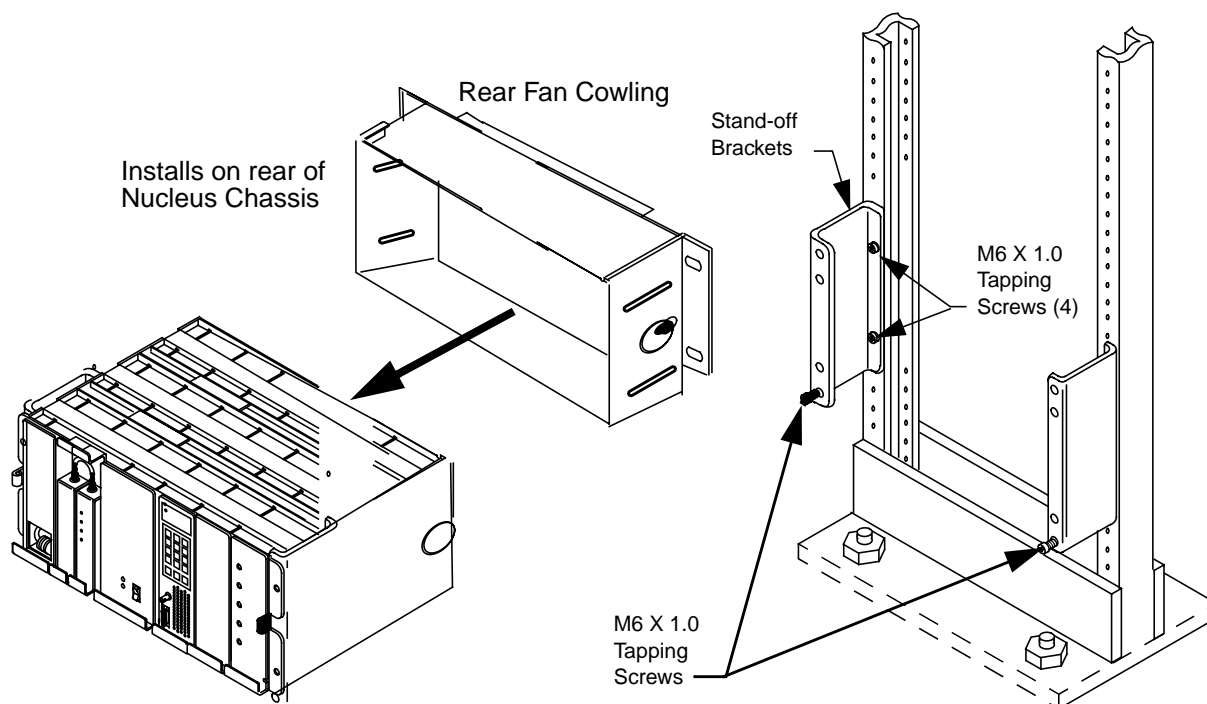

Figure 4-5: Attaching Screws to the Brackets
- c. Install the brackets on the rails using four M6x1.0 tapping screws (see Figure 4-5).
- d. Insert an M6x1.0 tapping screw (supplied) into each front rail at the lower of the two holes for each stand-off bracket (see Figure 4-5). The screw head is approximately 1/8 in. from the rail surface. These screws assist in positioning and holding the station for mounting.
- e. Carefully lift the station and position the station in the equipment rack so it rests on the two screws installed above (see Figure 4-5).